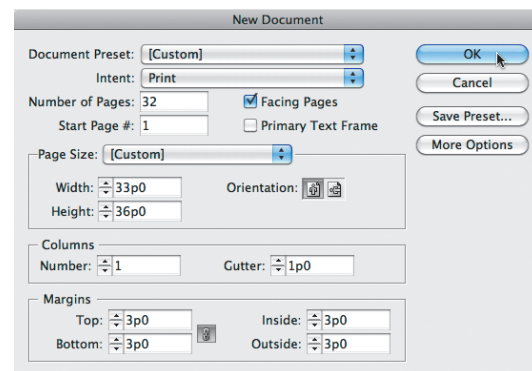

FIGURE 17.15 The New Document dialog settings in InDesign.
2. For this book, you'll need 32 pages, as one side of each page will be blank (leaving you with 16 pages). Of course, you should also include the front and back covers in your tally. Match your settings to those in FIGURE 17.15. Set the Intent pull-down menu to Print. Be sure to click the Facing Pages button. I included 32 pages (remember that you need to work in multiples of four) and used a width of 5.5 inches and a height of 6 inches. You can type "5.5 in" and "6 in" into the fields, and InDesign will convert the units of measurement to picas (33po and 36po). I left the margins at their default setting of 3 picas.